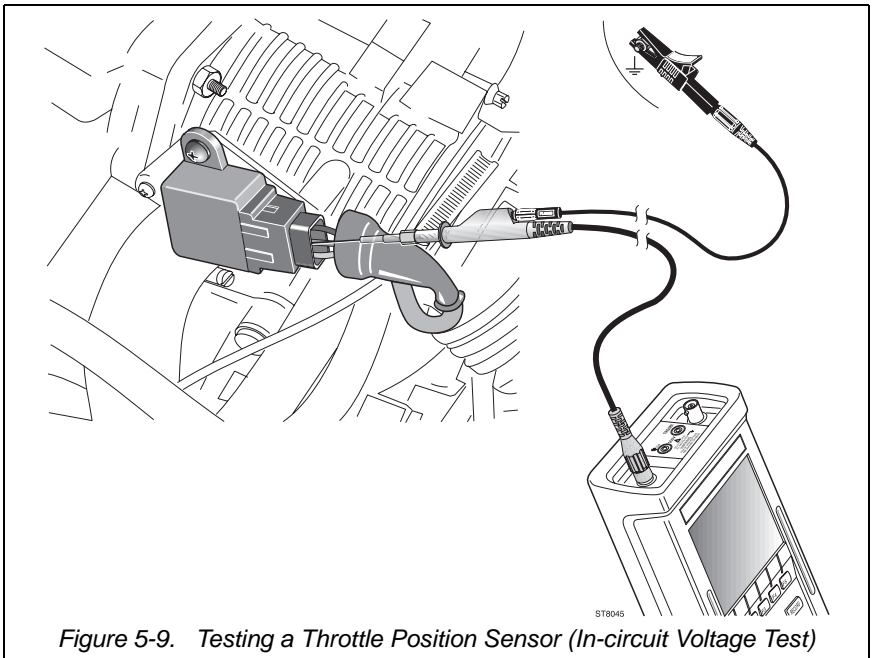

Figure 5-9. Testing a Throttle Position Sensor (In-circuit Voltage Test)
- ①
- ②
- ③ Connect the test leads as displayed by the test tool's Connection Help and shown in Figure 5-9.
- ④   Starts the potentiometer sweep test.